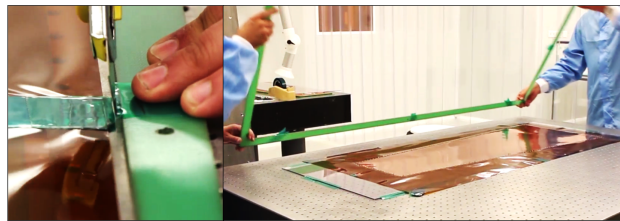

Figure 57: Detaching the foil from its frame.
Step 8: When the foil is in place, detach the frame from it by cutting the tape with a sharp blade and remove the frame (Fig. 57).